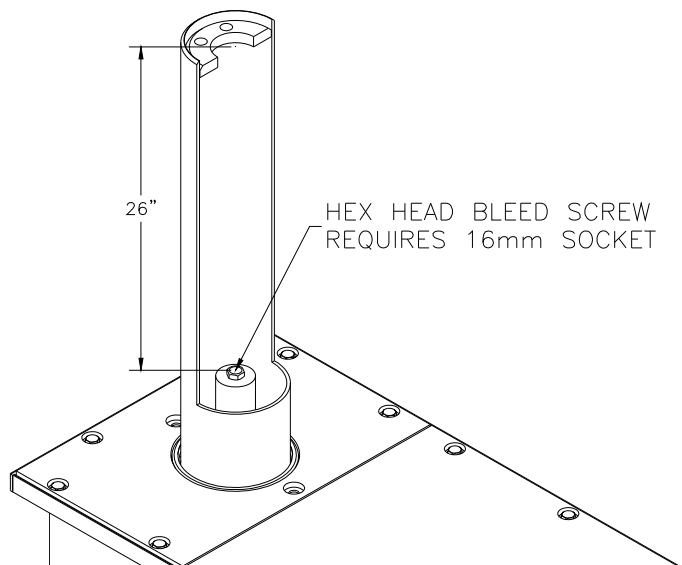

Fig. 9
21. Finish Energize the power unit to run the cylinder up about 3 feet. Loosen the bleed screw at the top of each cylinder and allow the trapped air to escape. Bleed both cylinders until clear oil is seen. Refer to **Fig. 9**. Raise the lift to full stroke and continue to run the power unit for another 10 seconds to check for hydraulic leaks.